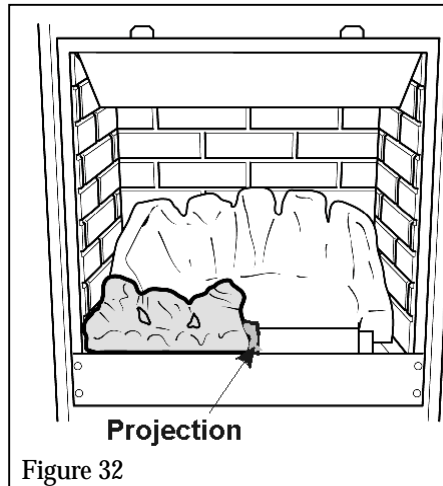

Figure 32
2. Place the left front coal in position behind the metal lip at the front of the firebox. The side projection on this coal should be near the middle front of the firebox. See figure 32.